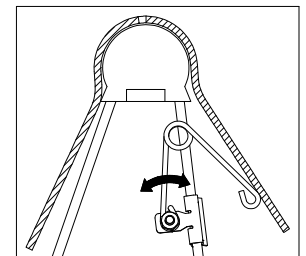

Figure E2: Cutaway view of driver side pivot arm and saddle.
- Adjust the resting angle of your coupler plate by rotating the spring on the driver side pivot arm. Pulling the top of the spring away from the cab will increase the angle of the coupler plate. Set the angle of the coupler so that head will tilt away from the cab when coupling, see Figure E2. Tighten the 1/4" nut once the springs orientation is set.